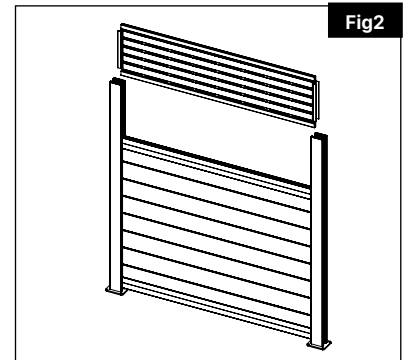

Fig.2
- 3.** Locate your next post by measuring 62½" (Inside surface mount plate) or 68⅜" center to center (Fig. 2).
- 1.** Insert slit channels on top and bottom of DSP panel (Fig. 2).
- 2.** Insert aluminum post inserts over the ends of DSP panel (Fig. 2).
- 3.** Insert DSP assembly into posts and into top of mid rail (Fig. 2).
2. Add wet or dry concrete mix according to the manufacturer's instruction to the top of the hole for the first post. Ensure first post is plumb and level. Let concrete soft set making sure to leave about 2" of space from the bottom of the panel to the ground (Fig. 2).